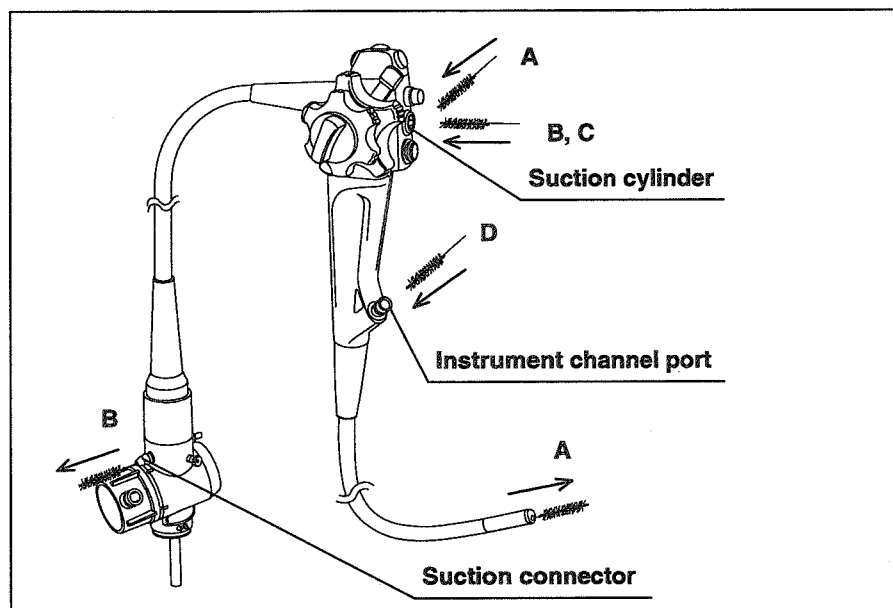

Figure 3.17
While the endoscope is submerged, brush the instrument and suction channels, suction cylinder and instrument channel port according to the following procedures (see Figure 3.17).
2. Insert the channel cleaning brush at a 45° angle into the opening located in the side wall of the suction cylinder as illustrated by A in Figure 3.17. Using short strokes, feed the brush through the insertion tube until it emerges from the distal end of the endoscope.
2. Insert the channel cleaning brush straight into the opening of the suction cylinder as illustrated by B in Figure 3.17. Using short strokes, feed the brush through the universal cord until it emerges from the suction connector on the endoscope connector.
1. Insert the channel-opening cleaning brush into the suction cylinder as illustrated by C in Figure 3.17, until half of the brush section is inserted.
1. Insert the channel-opening cleaning brush into the instrument channel port until the brush handle touches the channel opening as illustrated by D in Figure 3.17.